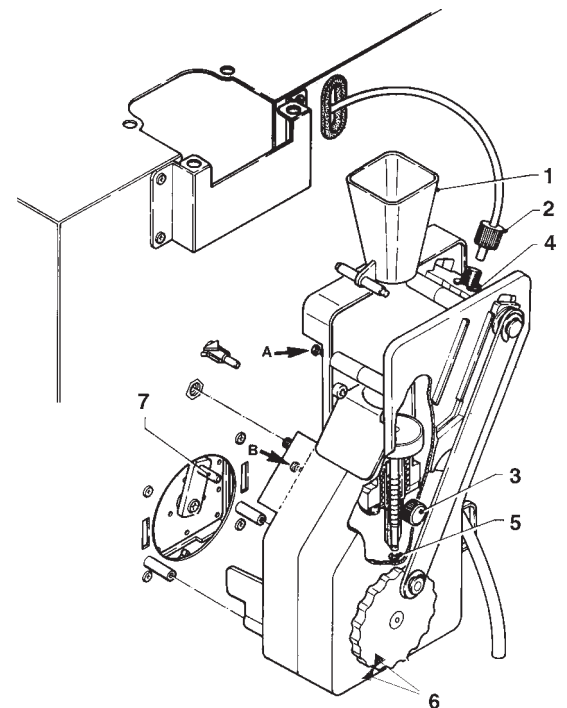

Fig. 22
- remove the boiler teflon hose connection from the upper piston, paying attention not to lose the seal (see Fig. 22);
- Loosen screws A and B enough to release the coffee funnel (see fig. 22);